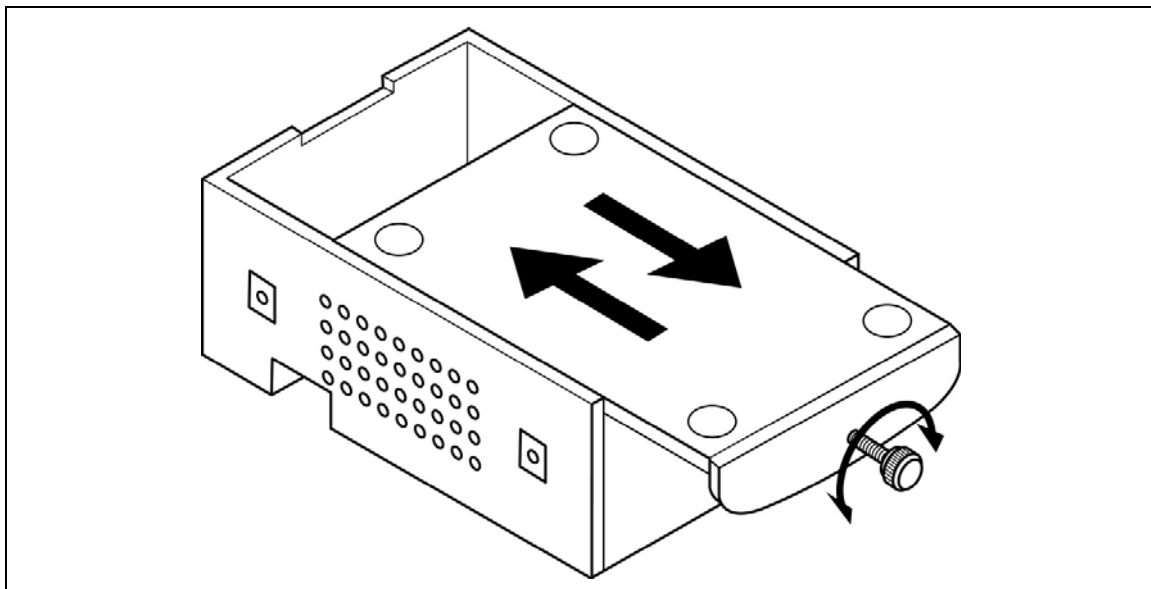

Figure 3: Opening the bottom of the probe
- 1 Turn the EMU3 probe upside-down, unscrew the retaining screw and slide the bottom out as shown in Figure 3.
- 1 Turn the EMU3 probe upside-down, unscrew the retaining screw and slide the bottom out as shown in Figure 3 on page 10.